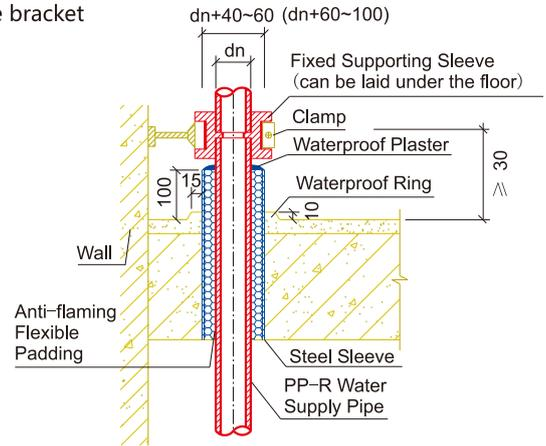

Fig.7 Pipe Crosses Floor (I Type)
2.1 The anti-leakage measurements should be well prepared before cross the pipe. The details of pipe crosses the floor show in figure 7 and figure 8. The crossing parts should be constructed with the clamps in the pipe system, take anti-leakage measurements, and fix the pipe well.